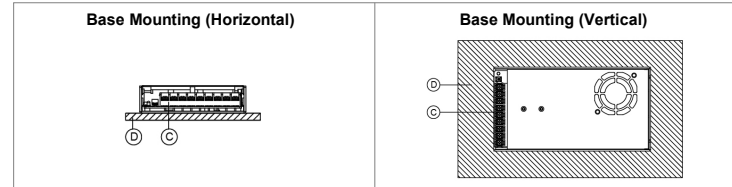
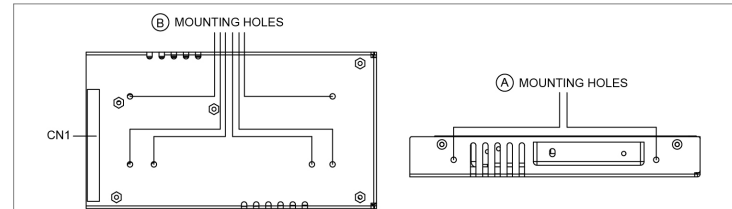
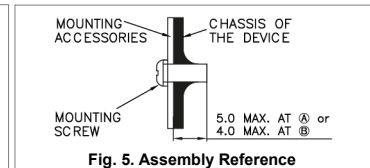

Fig. 2. Recommended Mounting Orientations
Fig. 3. Mounting Hole Locations
Fig. 5. Assembly Reference
- ① Input & Output terminal block connector
- ② DC voltage adjustment potentiometer
- ③ DC OK control LED (Green)
- Ⓐ Side Mounting: Fig. 2 and Fig. 3 show the mounting hole locations for power supply assembly onto a metal mounting surface. The power supply shall be mounted on minimum of 2 mounting holes using M4 screw of maximum 5mm length (Refer to Fig. 5). This is to maintain a safety distance between the screw and internal components.
- Ⓑ Base Mounting: Fig. 2 and Fig. 3 show the mounting hole locations for power supply assembly onto a metal mounting surface. The power supply shall be mounted on minimum of 4 mounting holes using M4 screw of maximum 4mm length (Refer to Fig. 5). This is to maintain a safety distance between the screw and internal components.
- Ⓒ Fig. 2: Connector
- Ⓓ Fig. 2: This surface belongs to customer's end system or panel where the device is mounted.